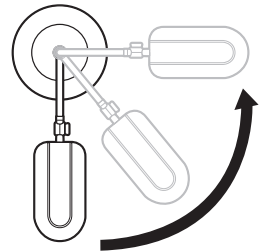

Fig. 6
2. To rotate the lamp head right or left, loosen height adjusting collar, swing lamp arm to desired position. Tighten collar. Lamp arm rotates a full 360°. (Fig. 6)
3. To adjust lamp head angle up or down – loosen swivel knob counterclockwise, place head at desired angle, tighten swivel knob to secure. (Fig. 6)